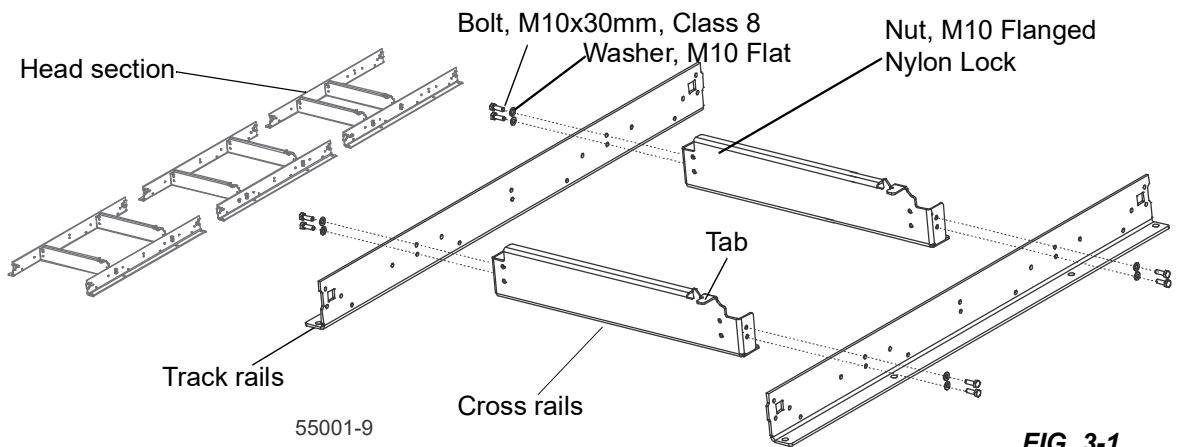

FIG. 3-1
1. Attach the track rails to the cross rail by **loosely** securing the M10x30mm bolts. See Fig. 3-1.